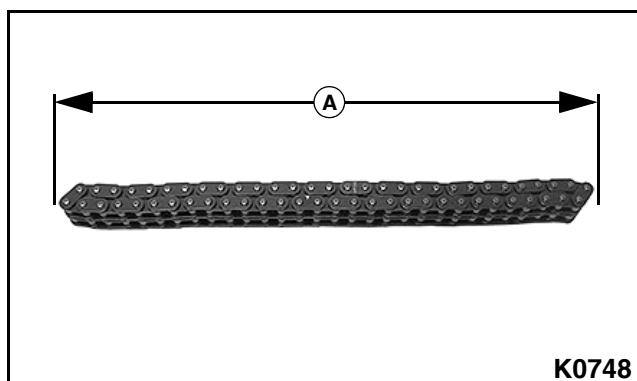

Figure 3-164
3. Measure the chain length (A) with the chain fully stretched. **See Figure 3-164.**